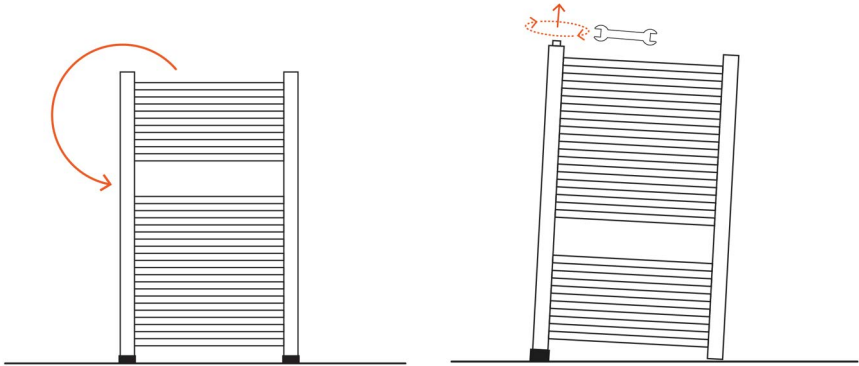

Figure 3 | Inlet tilted to its highest point before opening..
3. Tilt the towel rail until the fitting location is at the highest point, as shown in **Figure 3**. This prevents any fluid escaping if your towel rail is pre-filled.